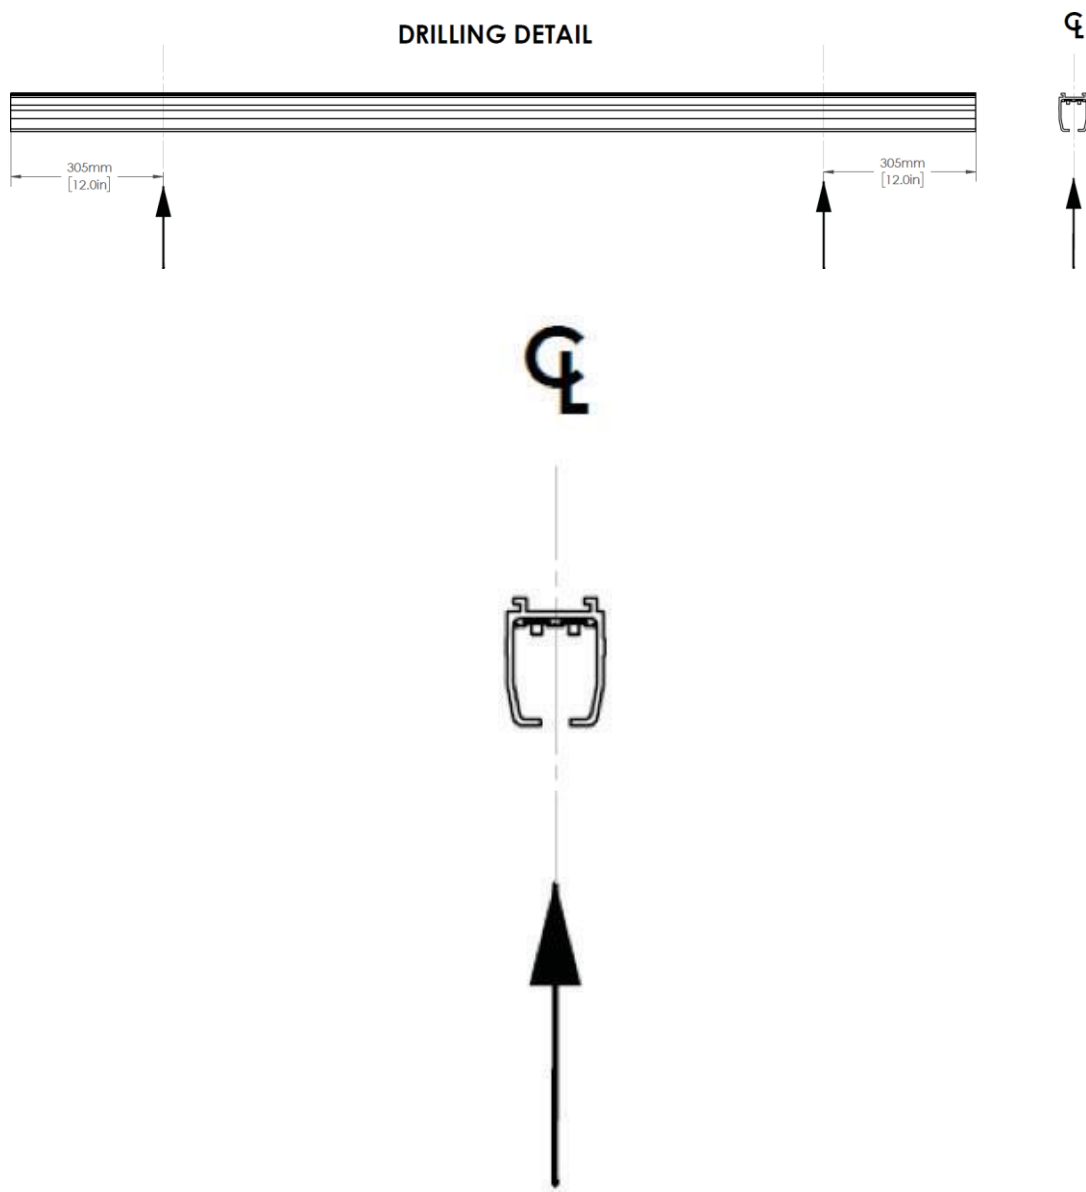

Figure 36: **Drilling Detail**
- As shown in Figure 36, drill from the bottom up, through the channel, to ensure to drill between the metal segments of the TransStrip.